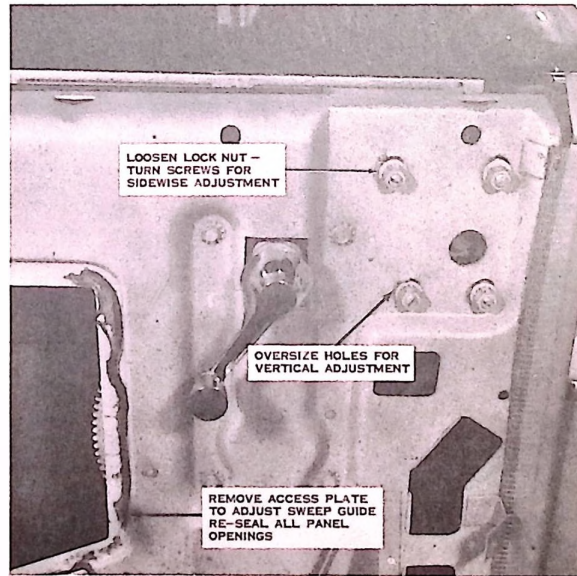

FIGURE 5
2. Align the quarter window in its opening by adjustment screws at the quarter window hinge. See Figure 5. The window assembly can be moved sidewise in the opening, and up or down through adjustment screws and movement in the over-sized holes in the quarter panel. For the best operation, adjust the window so that it rides the inner bumper as it is being raised.